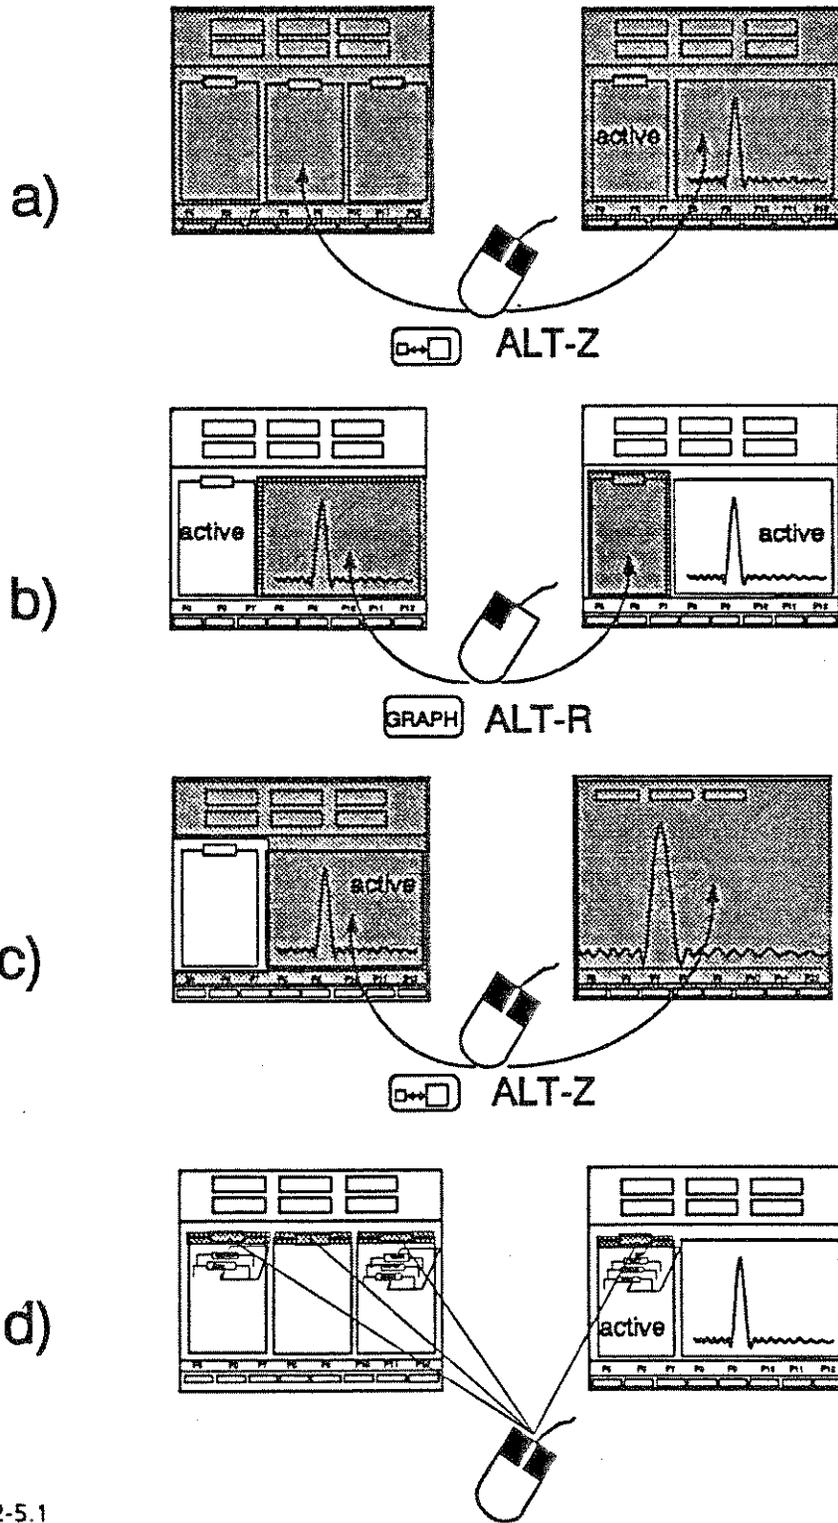

Fig 2-5.1
- change between panel and graphics in the part display, with the left mouse key being pressed in the shaded area (cf. Fig. 2-5.1 b).
- change the panel by clicking the panel heading using the left mouse key (cf. Fig. 2-5.1 d).